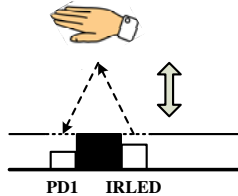

Figure 7 Proximity Mode Detect (Side View)
- PD** Proximity Detection (Figure 7)